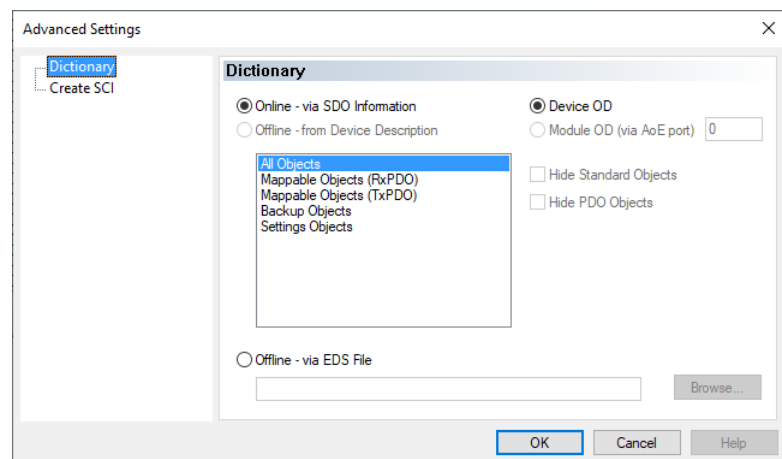

Fig. 6-31 Reading device information
1. Click on the desired module (e.g., Term 2) within the tree (Solution Explorer) and under the **CoE - Online** tab, click on **Advanced...** (see Fig. 6-31) to access settings.
2. In the dialog select **All Objects** and click on **OK** (Fig. 6-31).